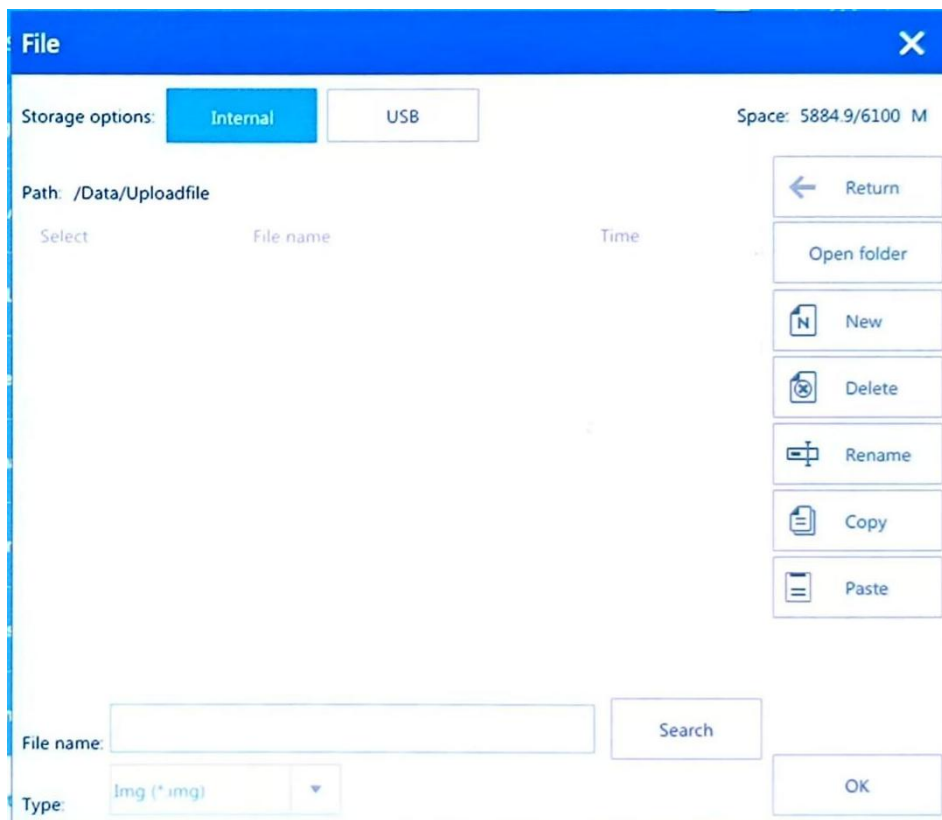

Figure 4-34
3. Click to select, and a pop-up interface will appear as shown in Figure 4-34